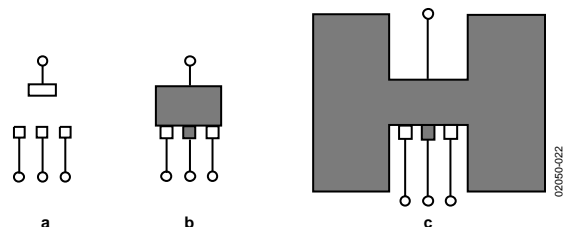

Figure 22. PCB Layouts
As shown in Figure 22, the amount of copper to which the ADP3338 is mounted affects thermal performance. When mounted to the minimal pads of 2 oz. copper, as shown in Figure 22 (a), θ_{JA} is 126.6°C/W. Adding a small copper pad under the ADP3338, as shown in Figure 22 (b), reduces the θ_{JA} to 102.9°C/W. Increasing the copper pad to one square inch, as shown in Figure 22 (c), reduces the θ_{JA} even further to 52.8°C/W.
- Decrease thermal resistance by adding a copper pad under the ADP3338, as shown in Figure 22 (b).
- Use the adjacent area to the ADP3338 to add more copper around it. Connecting the copper area to the output of the ADP3338, as shown in Figure 22 (c), is best, but thermal performance will be improved even if it is connected to other signals.